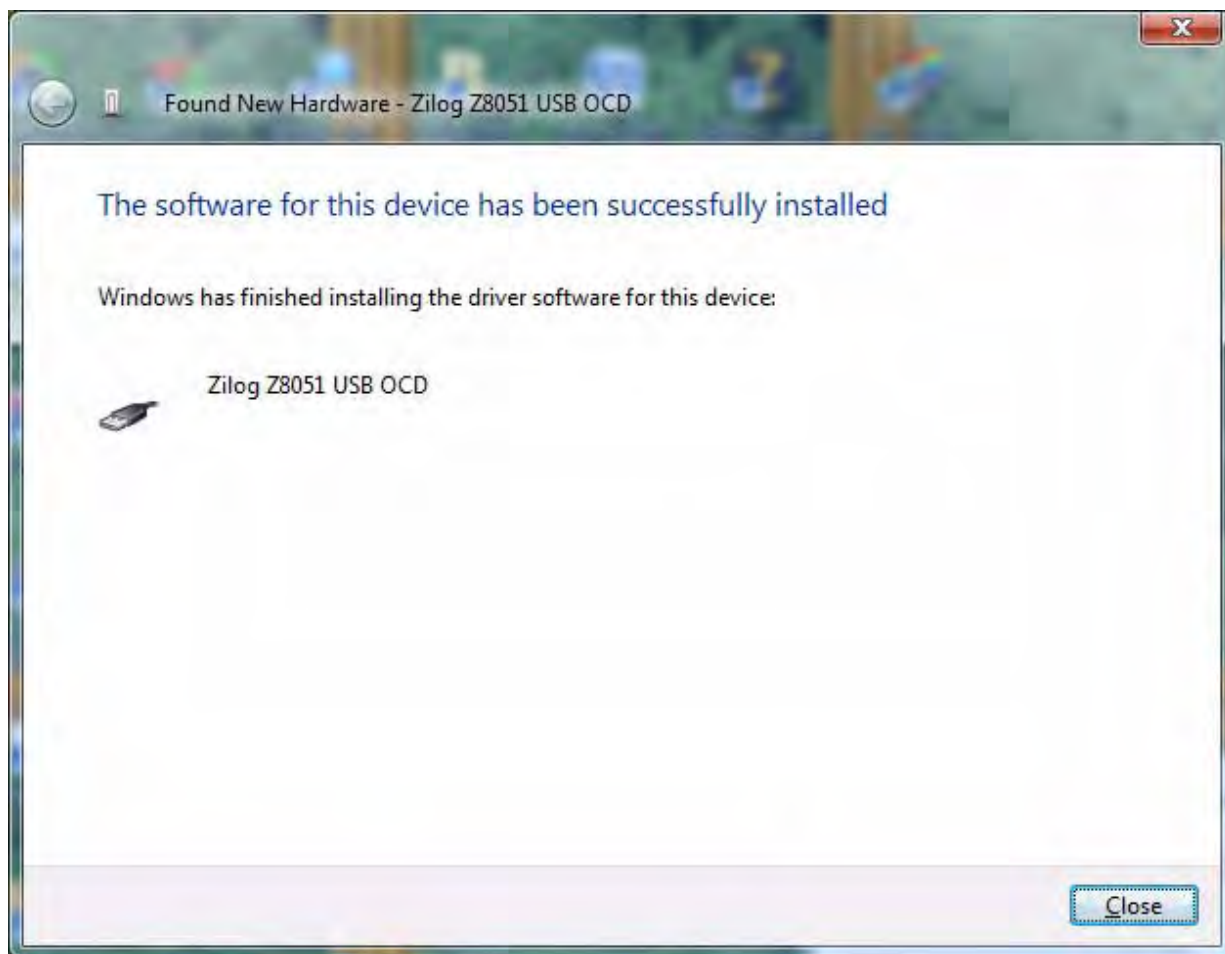

Figure 7. Successfully Installed Dialog, Windows Vista
5. When the installation is complete, the screen shown in Figure 7 will appear. Click **Close** to exit the OCD driver installation.
- **Note:** On some installations, the Found New Hardware screen shown in Figure 7 may also display the text string, `Zilog Z8051 USB OCD - No Firmware`. This occurrence is normal and can be disregarded.